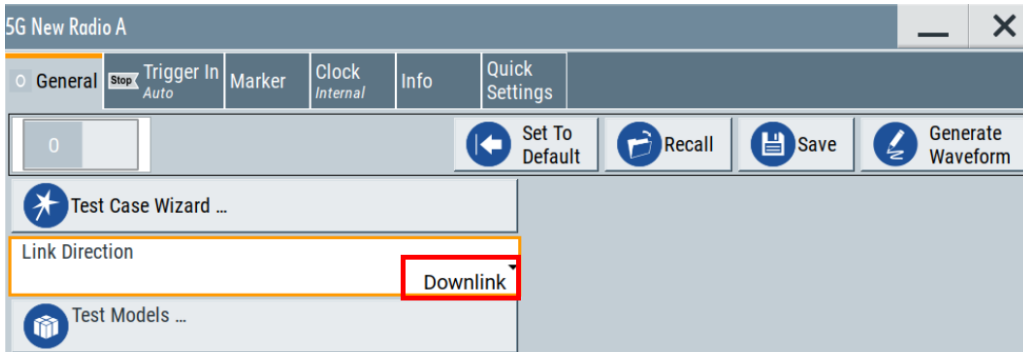

Fig. 7-6 Select link direction
- a) Link Direction **Downlink**. See Fig. 7-6